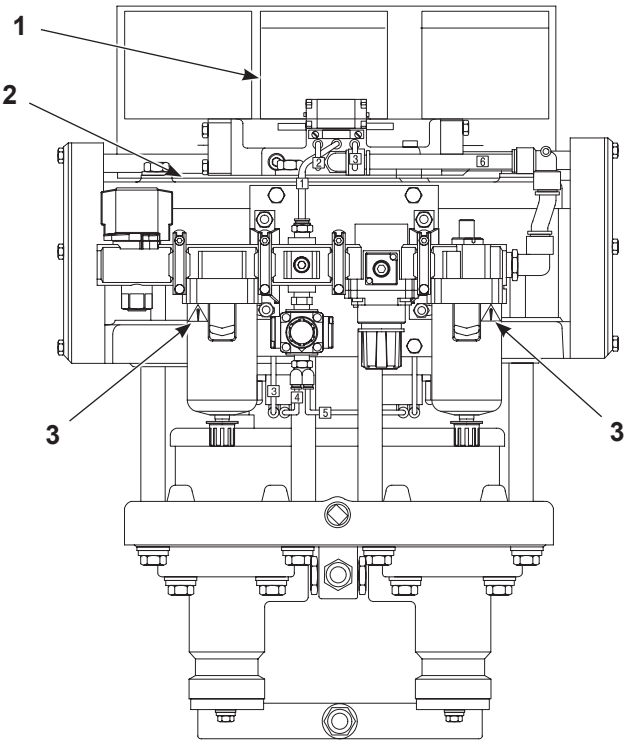
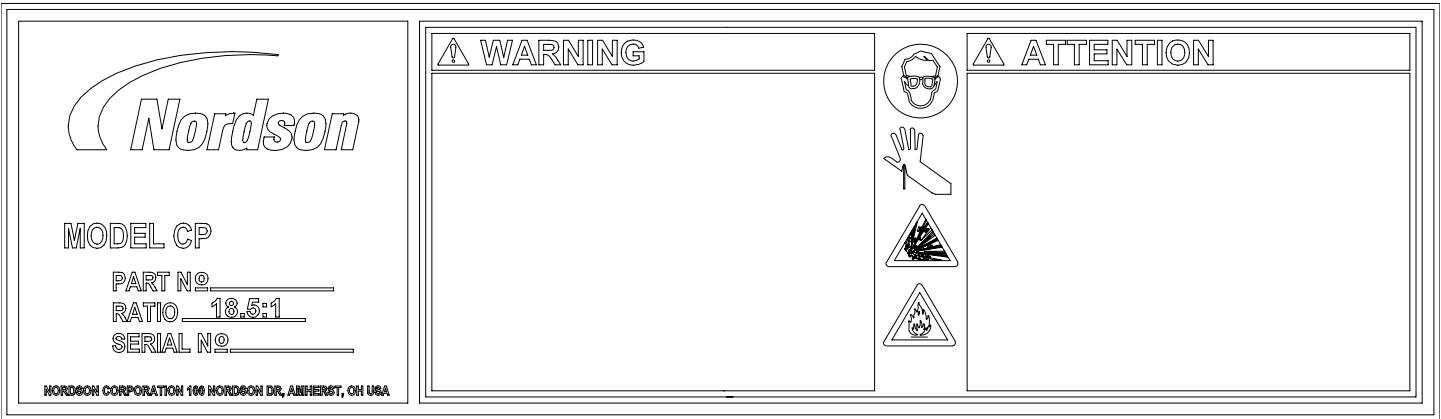
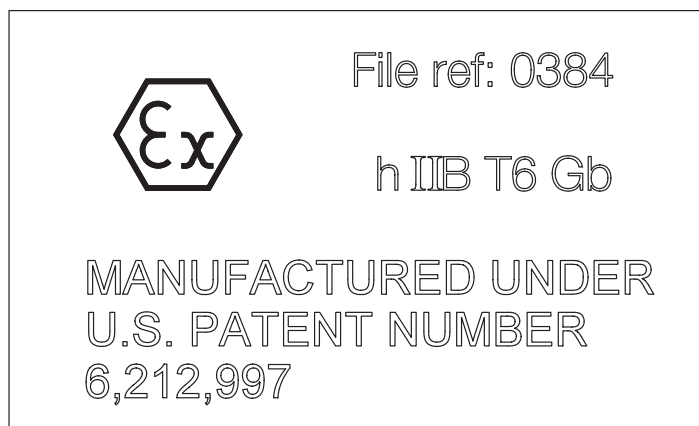

Figure 1-1 Safety Label Locations
Figure 1-2 Main Safety Label
Figure 1-3 ATEX/Ex Patent Label
See Figure 1-1 for the location of the safety labels. Figure 1-2 displays the main safety label (1). Table 1-1 describes the remaining safety labels (2, 3). Figure 1-3 displays the ATEX patent label.